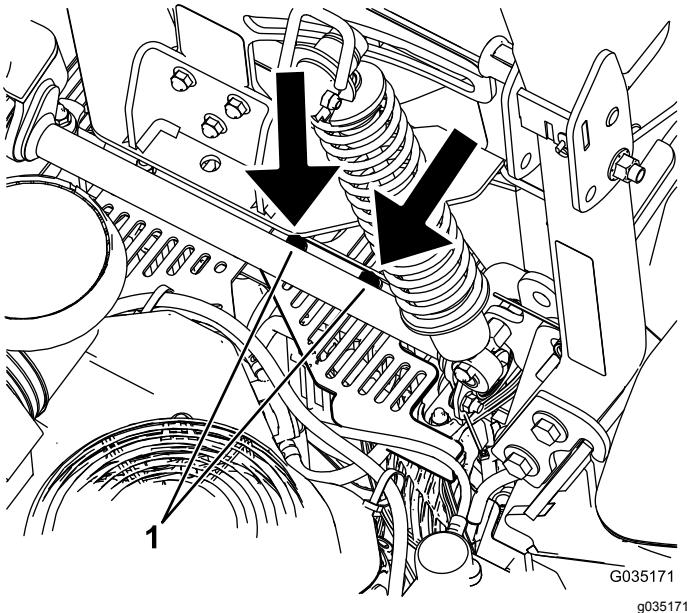

Figure 64
5. Remove the hydraulic-unit shroud by removing the 2 nuts shown in Figure 64.